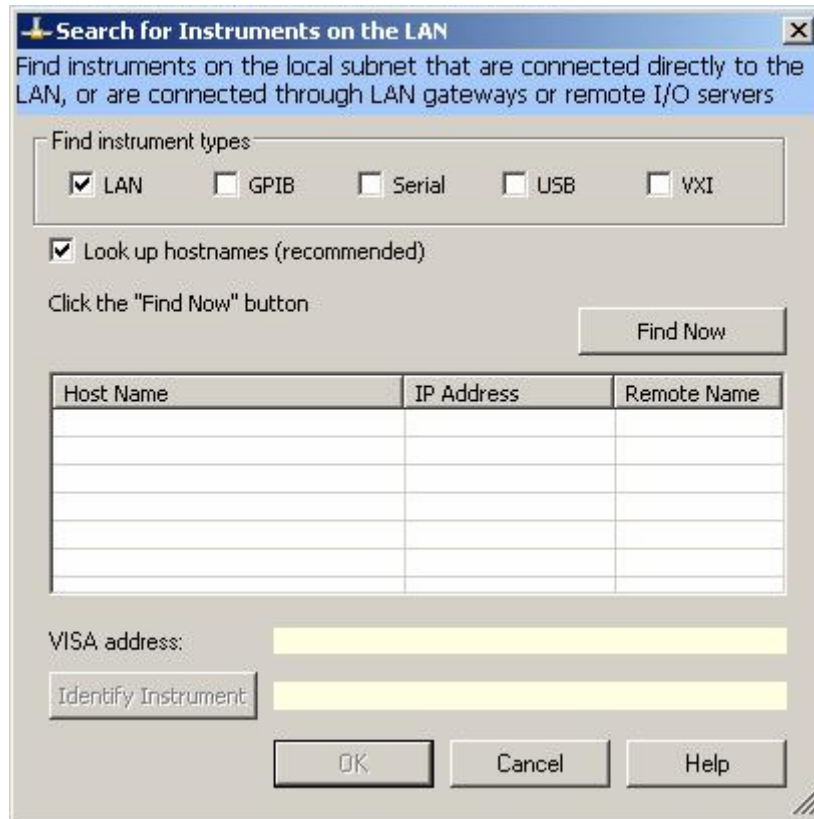

FIGURE 2-4: SEARCH FOR INSTRUMENTS ON THE LAN DIALOGUE BOX
- 6) Next, select the **LAN** check box, then click on the **Find Now** button (see Figure 2-4).